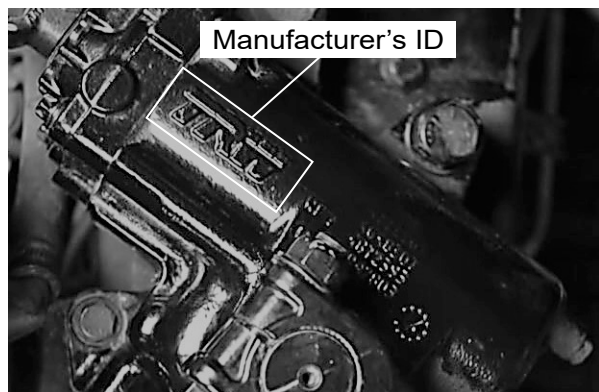

Figure 5 – TRW Steering Gearbox
- If there are concerns with any of the inspected components or clearances, determine if the chassis has a TRW steering gearbox or a Shepherd steering gearbox by looking for the manufacturer's name on the gearbox housing (refer to Figures 5 and 6). Then proceed as described below.